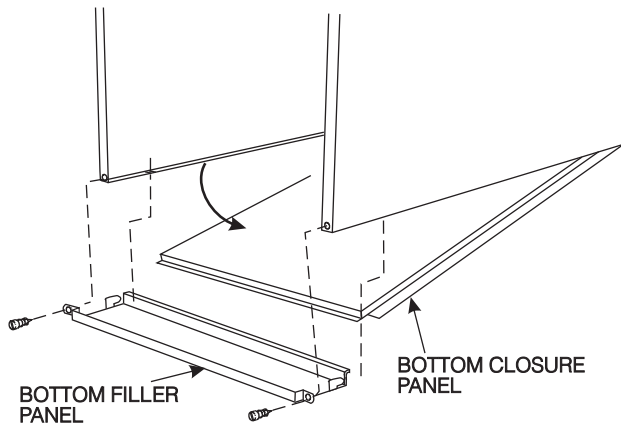

Fig. 9 - Removing Bottom Closure Panel
- Tilt or raise furnace and remove 2 screws holding bottom filler panel. (See Fig. 9.)
1. Tilt or raise furnace and remove 2 screws holding bottom filler panel. (See Fig. 9.)